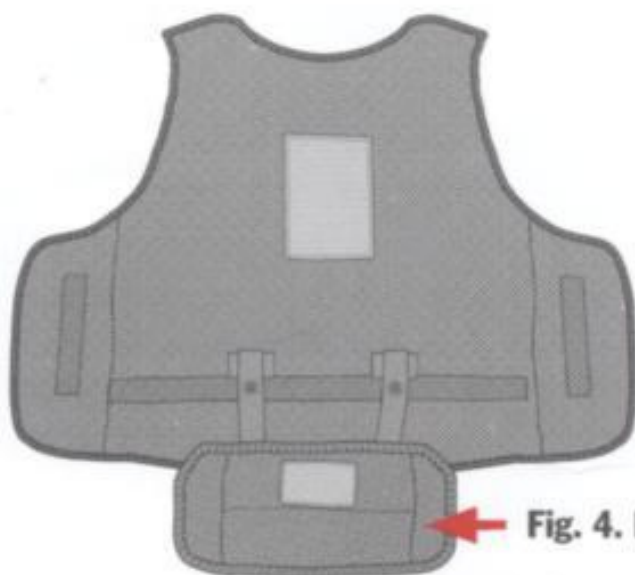

Fig. 4. Ballistic Lower Back Protector installation.
1. Lay Rear IOTV Carrier on a flat surface with mesh side up as shown in Fig. 4.